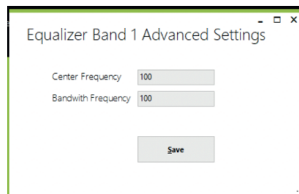

Figure 15 Frequency Set Menu
4. **Set:** The center and bandwidth frequencies can be changed from the screen that pops up when the box is clicked. Thus, 5 different bands can be changed as desired and customized. See Figure 15.